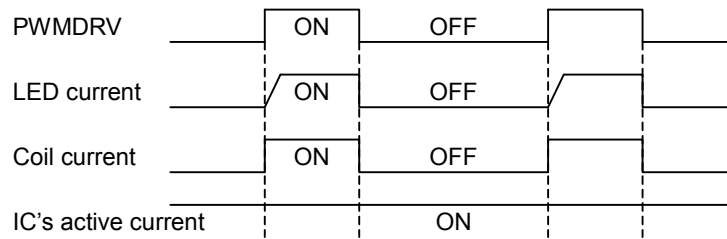

Fig.40
1) Current driver PWM control is controlled by providing PWM signal to PWMDRV, as it is shown Fig.40.